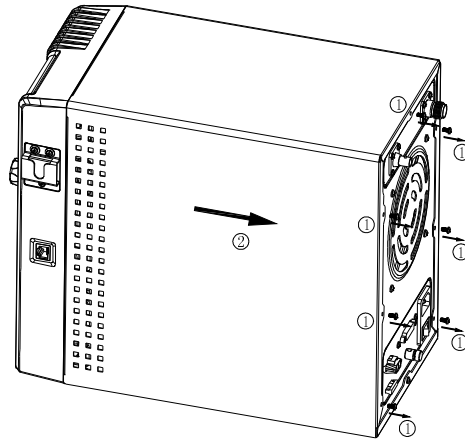

Figure 1
1. Use a screwdriver to remove the seven screws (M3.0X6.0) □ that locking the top cover of repeater, shown as Figure 1.
2. Remove the top cover □, shown as Figure 1.